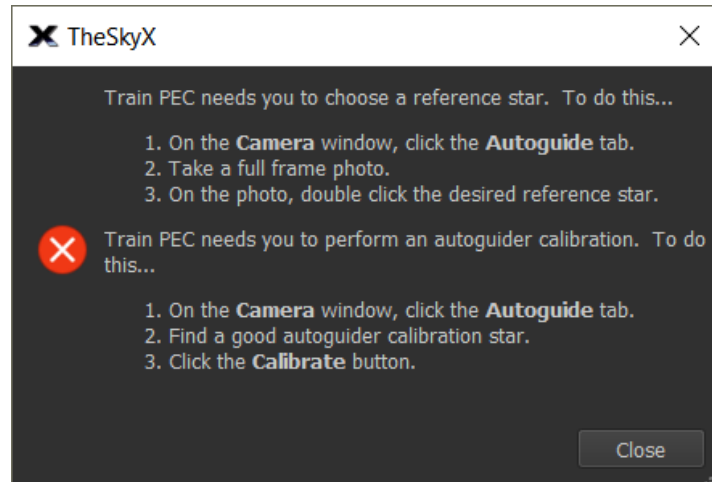

Figure 84: Error message displayed when Train PEC is not ready to proceed.
- The camera must be calibrated. Failure to calibrate will result in the error message shown in Figure 84.
- Selecting an appropriately sized subframe that bounds the reference star. Failure to perform this step will result in the error message shown in Figure 84.